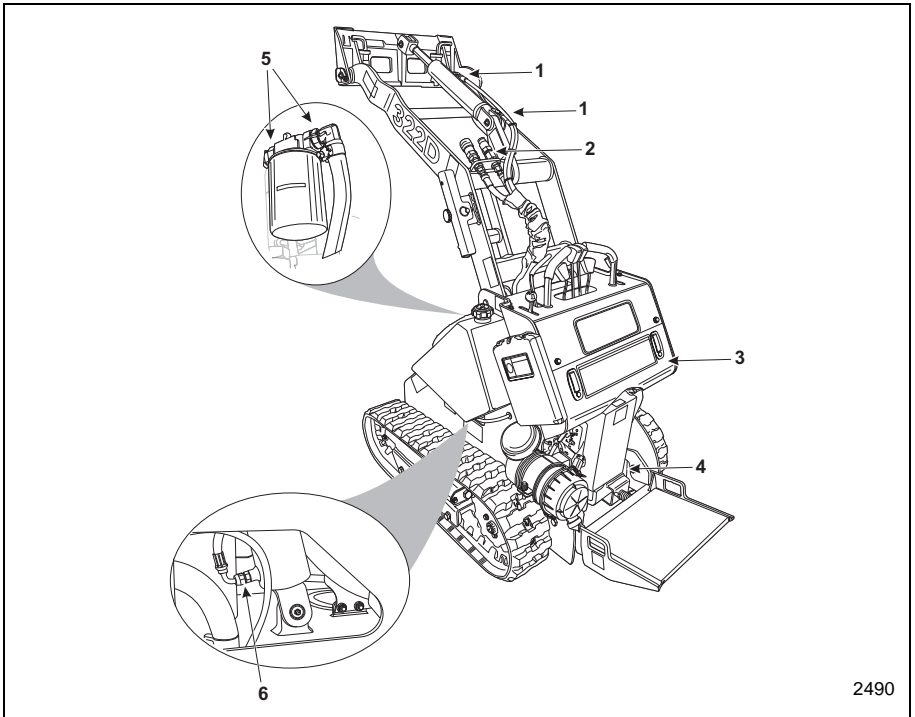

Figure 4-9 Inspect Hydraulic Lines and Fittings
- b. Follow all of the hoses, line and tubes from the control valve to their end (Items 2, 3, 4 and 5, **Figure 4-9**). Inspect the connections and look for signs of leaking hydraulic fluid, wear or damage.
- c. Carefully inspect both sets of quick couples (Item 2, **Figure 4-9**) to make sure that they are not damaged or leaking. Make sure to check for signs of leakage or damage to the drive motors and to their hydraulic connections.
Many of the fittings and lines on this machine are contained within the body of the machine. With the engine off, carefully inspect all of the lines and fittings leading to the hydraulic pumps, the hydraulic filter assembly (Item 5, **Figure 4-9**), the base of the boom lift cylinder (Item 6, **Figure 4-9**), etc.